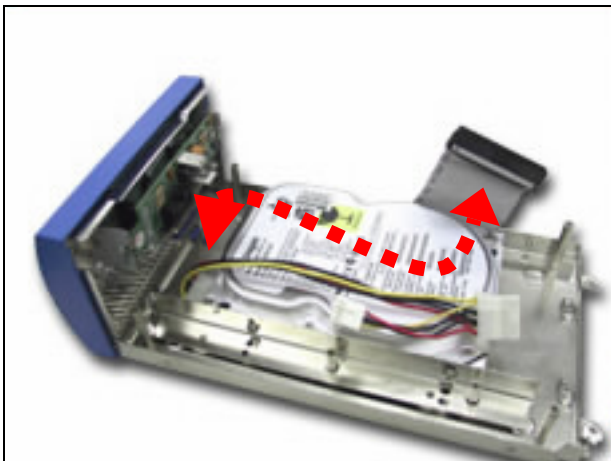

Fig. 2-29 Fold the IDE cable
7. Fold the IDE cable under the hard disk in 45 interface connector (*Fig. 2-29*).